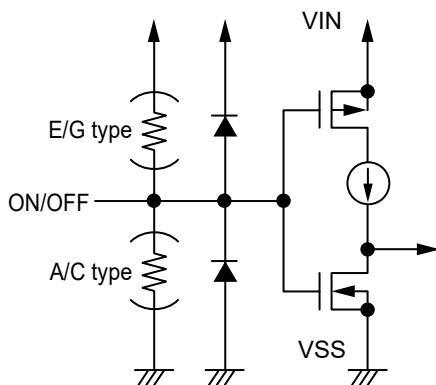

Figure 24
The ON/OFF pin is configured as shown in **Figure 24** and **Figure 25**. In the S-1711 Series A/ C/ E/ G type, the ON/OFF pin is internally pulled up or pulled down to the VSS pin in the floating status, so the VOUT pin is set to the V_{SS} level. In the S-1711 Series B/ D/ F/ H type, the ON/OFF pin is not internally pulled up or pulled down, so do not use the ON/OFF pin in the floating status. When not using the ON/OFF pin, connect it to the VIN pin in the product B/ D type, and connect it to the VSS pin in F/ H type.
*1. Note that the IC's current consumption increases as much as current flows into the pull-up/pull-down resistor when; the ON/OFF pin is connected to the VIN pin in the A/ C type, the ON/OFF pin is connected to the VSS pin in the E/ G type (Refer to **Figure 24**).